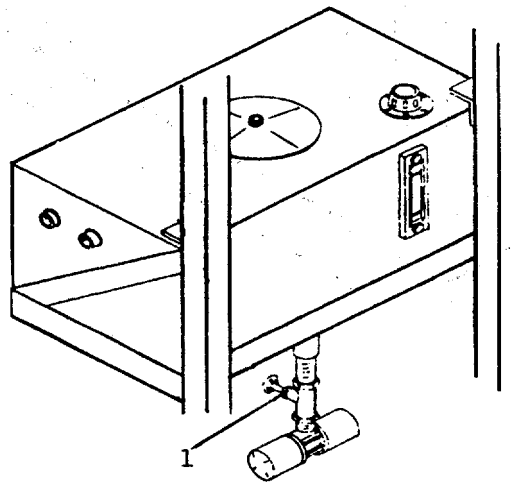

Figure 2-4. Hydraulic Oil Shut-off Valve.
2-4. HYDRAULIC OIL SHUT-OFF VALVE (Figure 2-4). The hydraulic oil shut-off valve (1) stops the flow of oil to the entire hydraulic system.